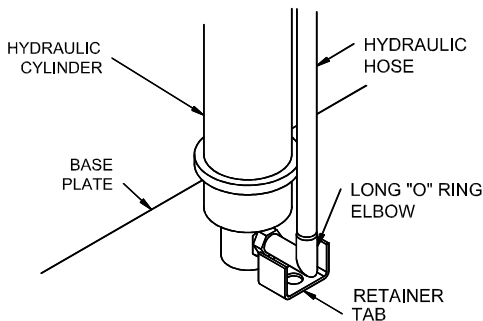

Fig 15
32. Attach long 'O' ring elbow in hydraulic cylinder on idler column side first. Attach idler cylinder hose assembly to elbow. Rest assembly between retainer tabs in base of column. See **Fig 15** below.